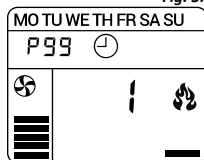
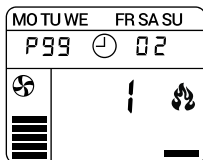
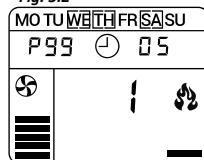

Fig. 5.3
Fig. 5.4
Fig. 5.5
To enter a custom programme, select P99 and press **OK** (10). P99 icon stops blinking and the icons for weekdays light up (Fig. 5.3). Use the **9** and **12** keys to scroll through the days of the week. Press **OK** (10) to set a daily programme for the selected day. The icon of the selected day begins to flash, while the other icons remain turned on. At the same time, the last two digits of the clock for turning off show the appropriate setting for the day (Fig. 5.4). The first time the programme P99 is enabled, the daily default setting is 00 (off) for all days of the week. Use the **9** and **12** keys to scroll through predetermined daily programmes from 00 to 50 (see **Appendix 2: Predetermined defined daily programmes**). Press **OK** (10) to save the selected daily programme. The day icon begins to flash, and set the programme stops flashing, and the icon of the remaining days of the week lights up. Press **9** and **12** keys to scroll through the days of the week and continue to customize your stove by repeating all the previous steps. Areas around the days of the week, for which a personalized programme is created, light up (see Fig. 5.5).